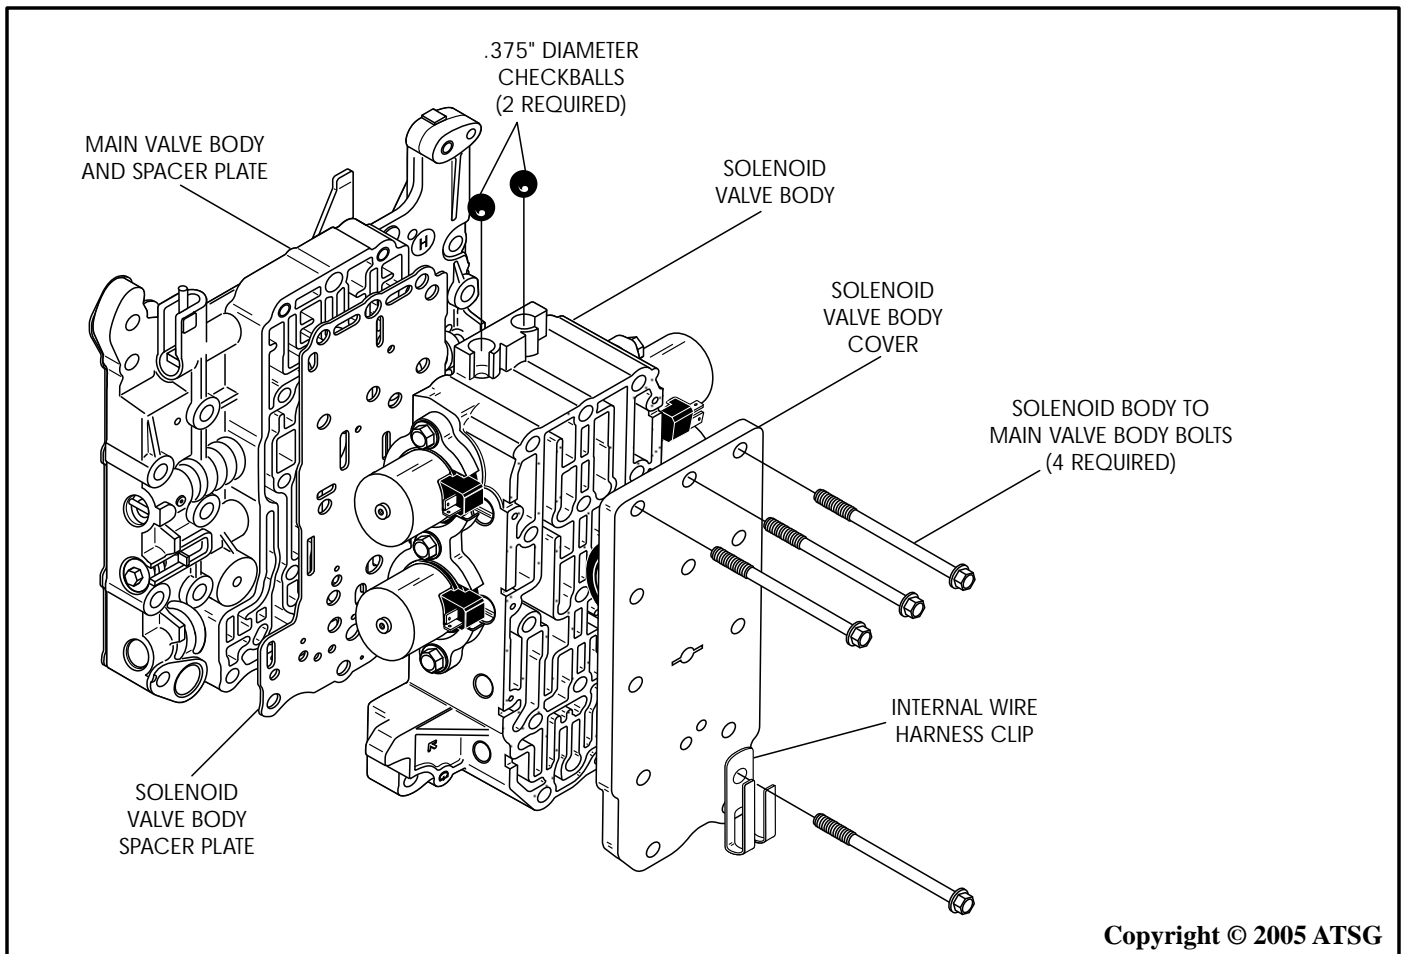

Figure 140
1. Remove the two exhaust check balls from the top of the solenoid body and place in a safe location, as shown in Figure 140.
2. Remove the four solenoid body to main valve body retaining bolts, as shown in Figure 140.
3. Remove the solenoid body cover, the solenoid valve body, and solenoid body spacer plate, as shown in Figure 140.